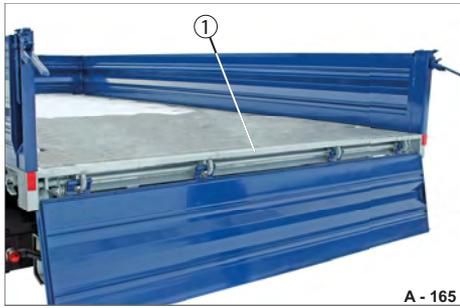

Fig. 176 Chassis loading platform edge
► If necessary, clean the loading platform edge (Fig. 176/1) and securing hook (Fig. 1752) to remove all dirt.